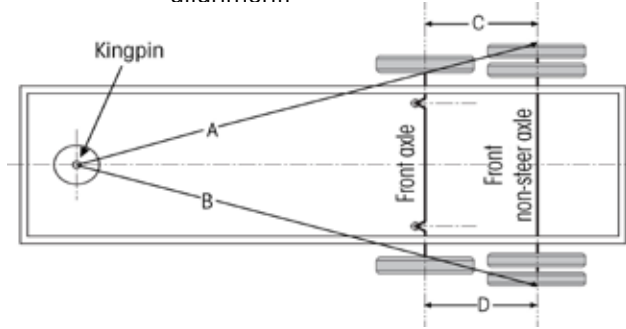

Figure 34: Self-steer axle alignment measurements
IMPORTANT: A self-steer axle must not be used as the primary front most axle for axle-axle alignment in these procedures (see Figure 34 on page 24).
1. If not already done, **check and align** the front (non-steer) axle thrust angle (Figure 34, $A=B$) according to KINGPIN TO FRONT AXLE ALIGNMENT CHECK on page 12.
4. **Follow** AXLE-AXLE ALIGNMENT CHECK on page 15 (Figure 34, $C=D$) and ensure it is within specifications listed in Table 5 on page 13.